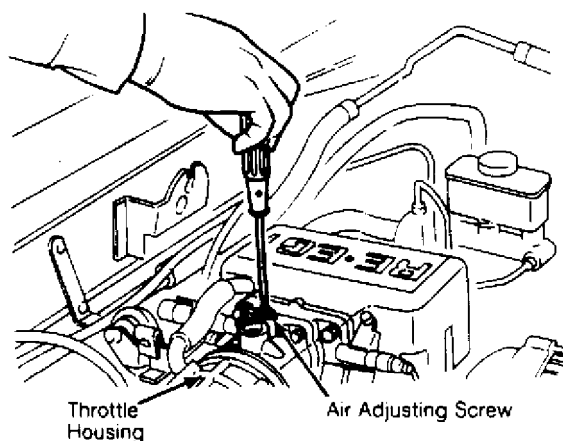

Fig. 5: Adjusting Idle Speed on Fuel Injected Models
3) Place transmission in Neutral and check idle speed. Adjust idle speed by removing plug and turning air adjusting screw. See Fig. 5. After adjustment, reinstall plug and reconnect vent and vacuum solenoid harness connector. Install fuel filler cap and remove tachometer.